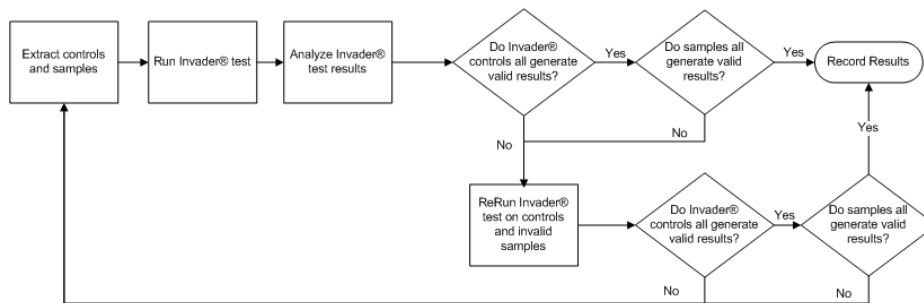

Figure 4: Recommended testing process for samples producing "Low Signal", "EQ" or "Invalid" results with the Invader® Factor II test.
*These "No Call" results were due to an "Invalid Control" result on 2 independent runs. Upon an "Invalid Control" result, the call reporting software automatically prevents the display of all sample genotypes, which resulted in 36 "No Call" samples. Upon retraining of the Operator, and retesting of the 2 runs (see Figure 4), all controls reported "Valid". †From the 36 "No Call" samples, only 2 samples did not provide any genotype results, however upon re-testing both samples were found to be in agreement with sequencing.
If the established criteria for an acceptable genotype call (i.e., WT, HET, or MUT) are not met by a given sample, it is identified as either "Low Signal" or "EQ" and the sample(s) must be re-tested. A given extraction of a sample that has two EQ (equivocal) results in a row cannot be called by the Invader® Factor II test. If a sample fails to produce the minimum fold-over-zero then the Invader test gives a "Low Signal" result, and the sample must be re-tested. Figure 4 illustrates the recommended re-test process for samples with "Low Signal", "EQ" or "Invalid" results.